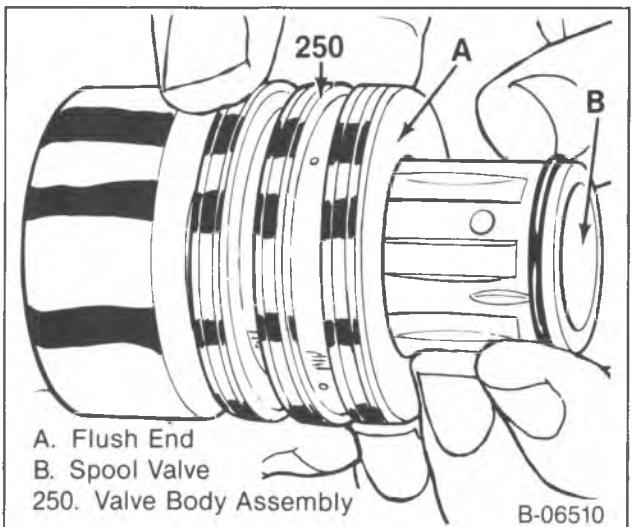
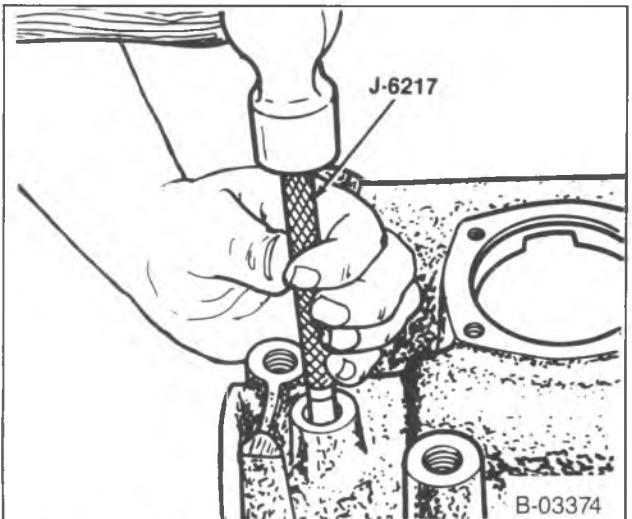

Figure 11—Remove or Install Valve Spool
Figure 12—Remove or Install the Connector Seat
- Valve spool (252) and seals (230) and (231) (figure 11).
- 15. Screws (210), clamp (211) and ball guide (212).
- Balls (213).
- 16. Connectors (229) (figure 12).
1. Connectors (229), using J 6217 (figure 12).